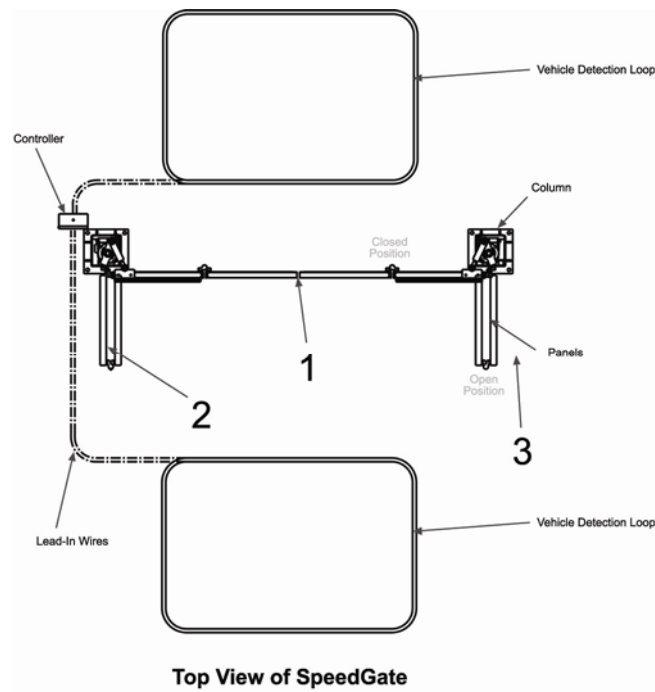

FIGURE 3.0
- If there is a wall next to the SpeedGate with a gap of less than 16” (see figure 3.0 # 3), a gate edge or a photocell can be mounted on the wall. If someone becomes trapped between the wall and the panel as the Gate opens, the gate edge or the photocell will be tripped and the SpeedGate will stop.